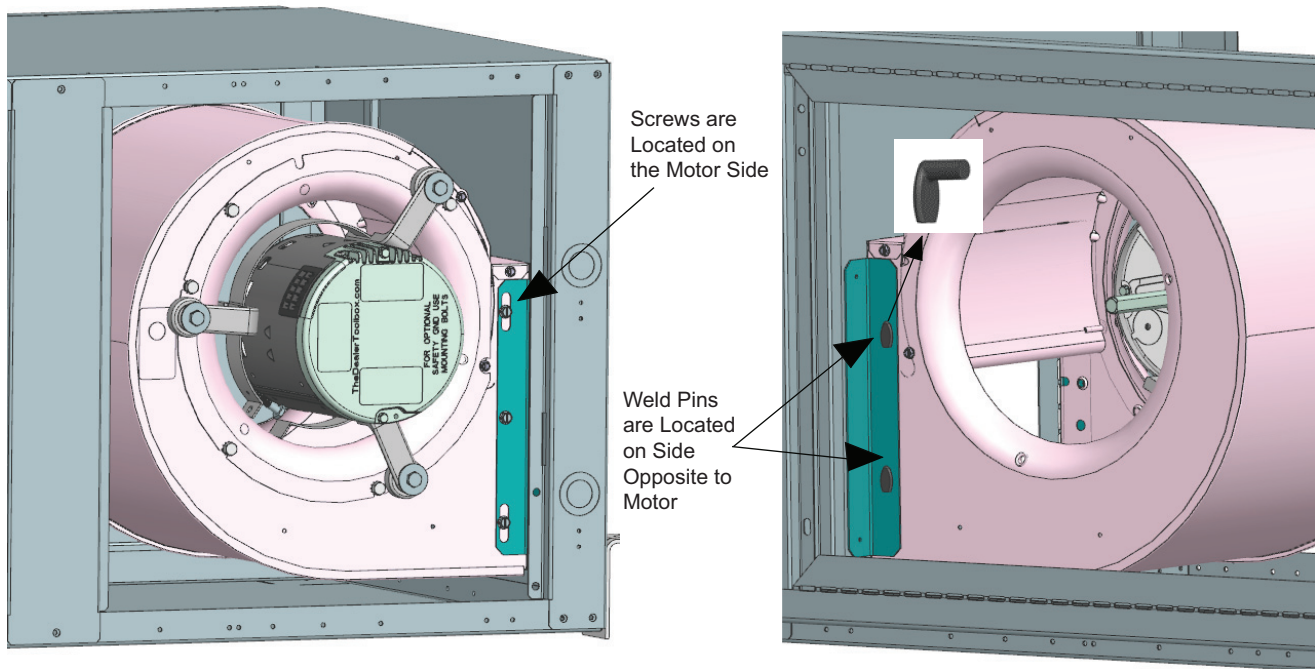

Fig. 61 — Horizontal Units Blower Assembly
3. Remove the three screws located on the motor side of the blower assembly. See Fig. 61.
4. Twist and pull blower back from welded pins located on opposite side to the motor, near the evaporator. See Fig. 61.